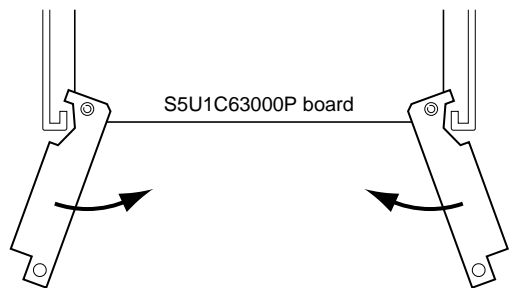

Fig. 2.1.2
- (3) Once the S5U1C63000P board has been inserted almost fully into the ICE, secure it in position by using the jig supplied with the ICE (see Figure 2.1.2).
- (4) When the above is done, replace the front panel.
Set the jig included with the ICE into position as shown in Figure 2.1.2. Using this jig as a lever, push it toward the inside of the board evenly on the left and right sides. After confirming that the S5U1C63000P board has been firmly fitted into the internal slot of the ICE, remove the jig.